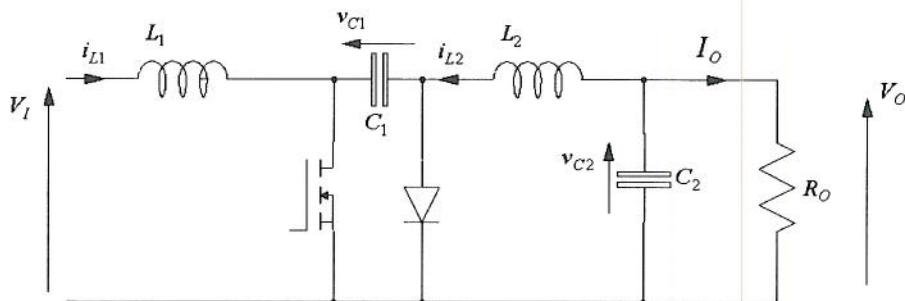

Figure Q4.1 Ćuk converter
- The designer finally chooses a Ćuk converter, shown in Figure Q4.1. Derive its voltage transfer ratio, stating your assumptions.